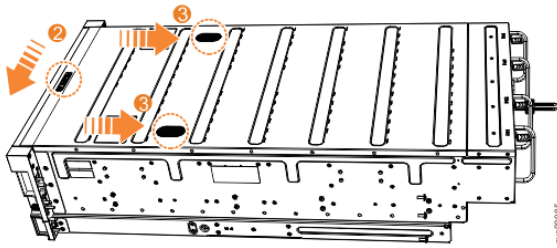

Figure 79. Replacing the top cover
2. Push the cover release lever to the side (**2**) as shown in Figure 79 on page 67.
3. Slide the cover towards the back of the enclosure (**3**) back until it stops, as shown in Figure 79 on page 67.